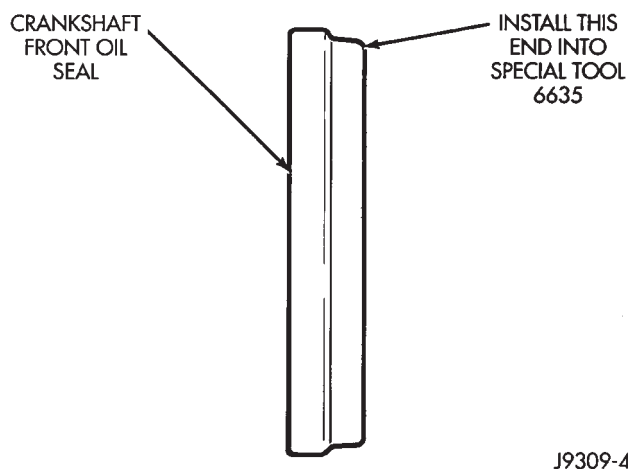

Fig. 42 Placing Oil Seal on Installation Tool 6635
- (1) Disconnect the negative cable from the battery.
- (2) Remove vibration damper.
- (3) If front seal is suspected of leaking, check front oil seal alignment to crankshaft. The seal installation/alignment tool 6635, should fit with minimum interference. If tool does not fit, the cover must be removed and installed properly.
- (4) Place a suitable tool behind the lips of the oil seal to pry the oil seal outward. Be careful not to damage the crankshaft seal bore of cover.
- (5) Place the smaller diameter of the oil seal over Front Oil Seal Installation Tool 6635 (Fig. 42). Seat the oil seal in the groove of the tool.